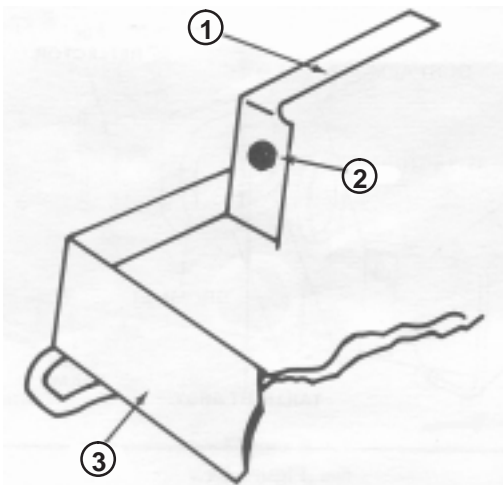

Figure 1
1. Remove plug from hole in front of diagnostic panel (Fig. 1).